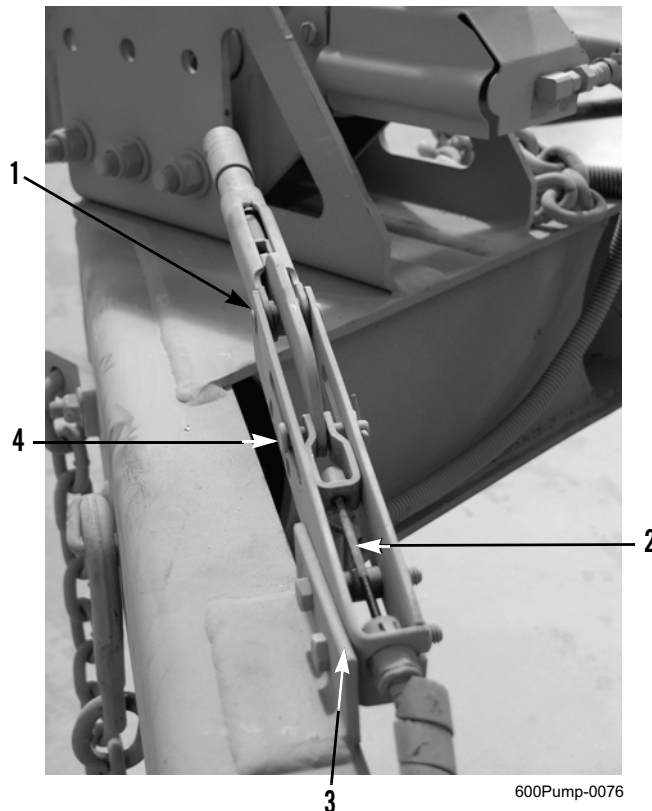

Figure 1. Hand Brake Lever and Cable.
1. Wipe hand brake lever (Figure 1, Item 1) and cable (Figure 1, Item 2) clean, as needed.
3. Inspect hand brake lever mounting to welded angle bracket (Figure 1, Item 3) to ensure it is secure.
4. Inspect cable end at hand brake lever (Figure 1, Item 1) for excessive wear or damage.
5. Inspect clevis pin (Figure 1, Item 4) for excessive wear or damage.
6. Inspect cable (Figure 1, Item 2) for frays, cracks, or distortion.
7. Apply and release hand brake and ensure cable (Figure 1, Item 2) moves freely in sheath.